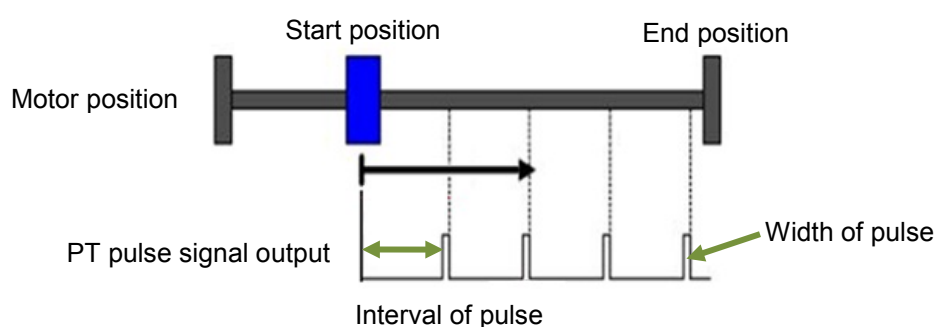

Figure 5.7.1
D1-N servo drive provides position trigger (PT) function. (Note: CoE model does not support position trigger function.) When the motor moves to the set position, the servo drive outputs a synchronous pulse signal, as figure 5.7.1. PT function cannot be set via Lightening. The related parameters of PT function must be set by Message Window, PDL or MPI. PT function is mainly used for equipment which requires synchronous in-position signal for high-speed and high-accuracy processing, such as laser equipment, line scan camera and aligner.